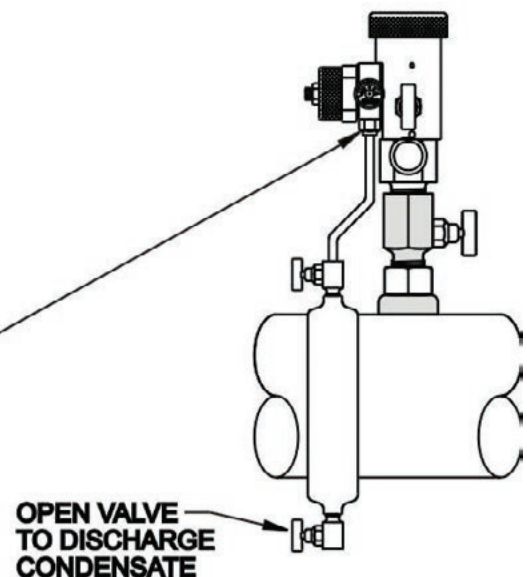

Figure 16: Dumping Regulator Condensate with Continuous Drain
For manual removal of condensate, loosen the regulator end cap ① counter-clockwise (CCW) one-half turn. This will allow condensate to discharge through the drain holes ② of the end cap. If the regulator is equipped with a continuous drain into a remote condensate bottle (as in Figure 16), open the valve on the bottle to discharge any condensate collected.